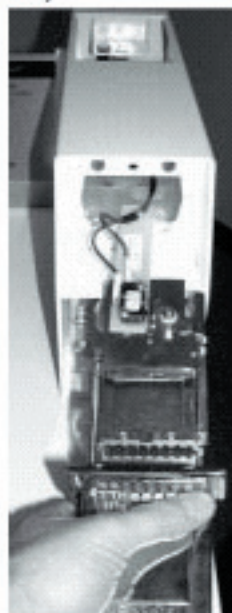

Fig. 2-35
10. Insert coin slide and switch assembly into the meter case. (Fig. 2-35)